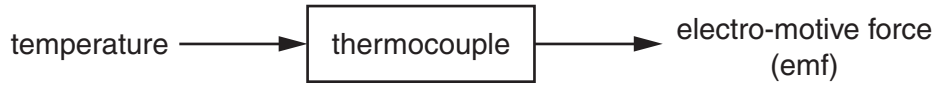

Fig. 1
- 1 The block diagram in Fig. 1 shows a thermocouple sensor.